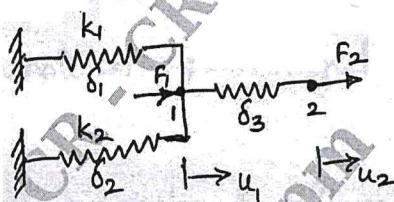

Fig Q2(a)
2. a. State the principle of minimum potential energy. Determine the displacements at nodes for the spring system shown in Fig Q2(a), Take :  $K_1 = 50\text{N/mm}$  ;  $K_2 = 60\text{N/mm}$  ;  $K_3 = 70\text{N/mm}$  ;  $F_1 = 75\text{N}$  ;  $F_2 = 100\text{N}$ .